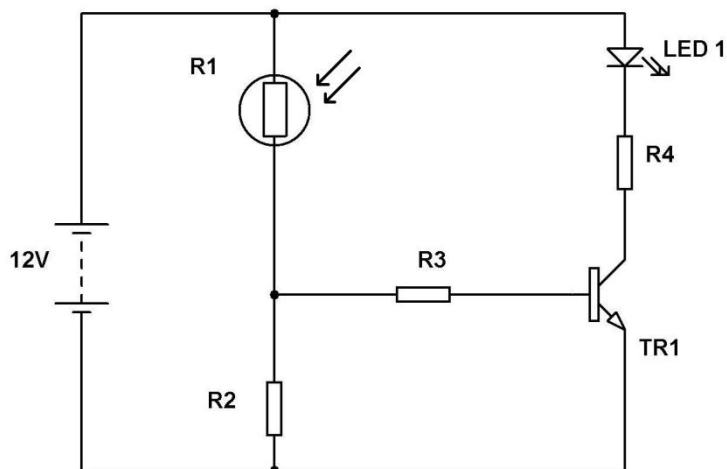

Figure 11
b) The questions below refer to **Figure 11**
- ii) When the circuit of **Figure 11** was tested, it was noted that LED 1 was turning ON during day time. Suggest what needs to be done so that LED 1 will turn ON only at night time.
- iii) What is the function of the resistor R3 in the circuit of **Figure 11**?